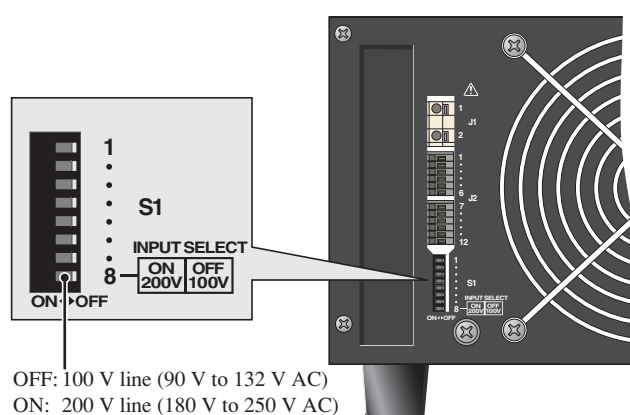

Fig.3-1 Setting a rear panel before turning the POWER switch ON
3. Check the S1 switch settings on the rear panel. Fig. 3-1 and Table 3-1